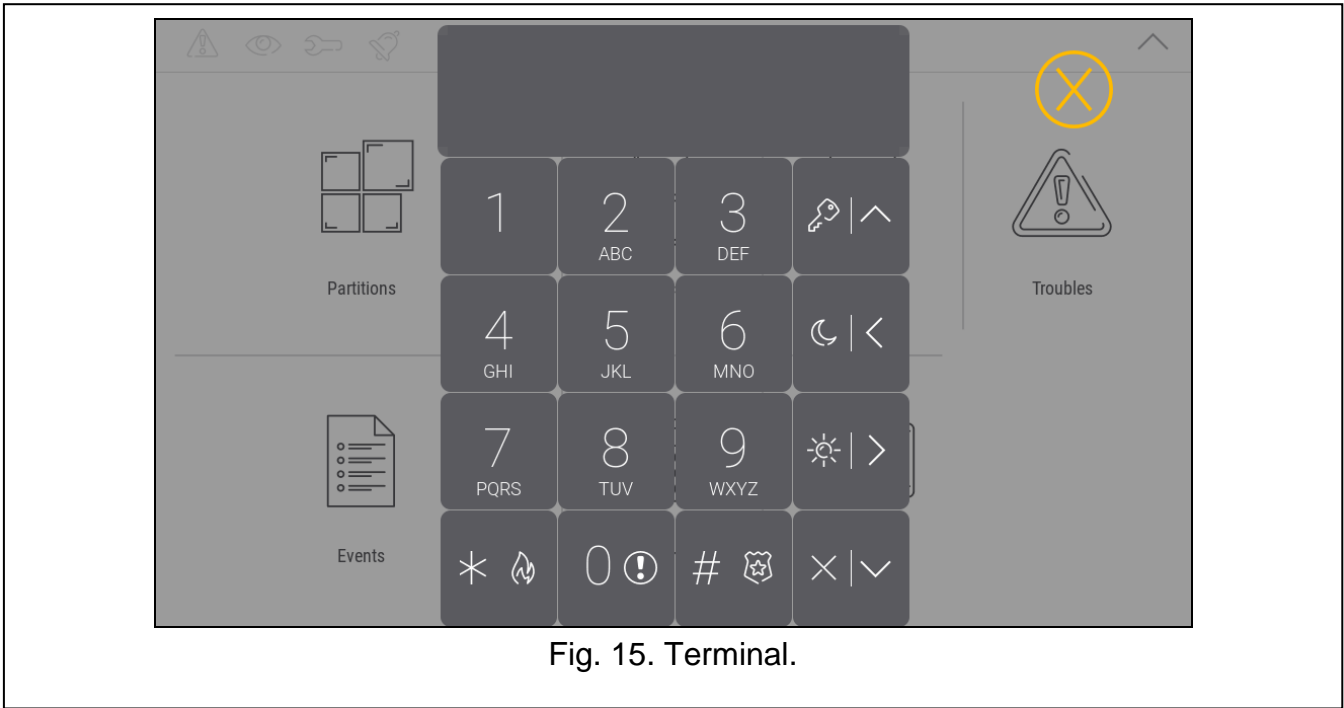

Fig. 15. Terminal.
4. Tap the “Terminal” function. The terminal will be displayed (Fig. 15).